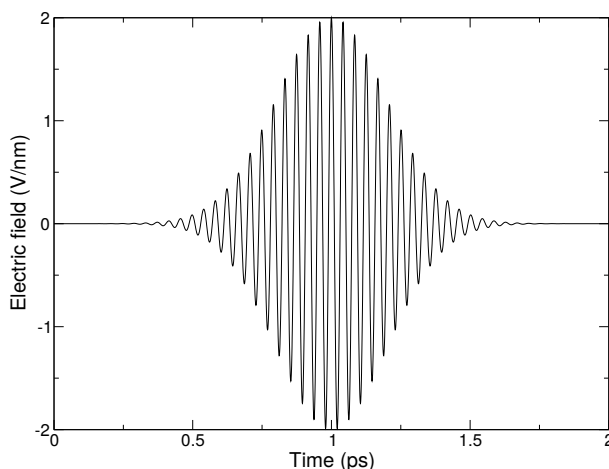

Fig. 5.48: A simulated laser pulse in GROMACS.
This simulated laser-pulse was applied to simulations of melting ice 146 (page 543). A pulsed electric field may look like Fig. 5.48. In the supporting information of that paper the impact of an applied electric field on a system under periodic boundary conditions is analyzed. It is described that the effective electric field under PBC is larger than the applied field, by a factor depending on the size of the box and the dielectric properties of molecules in the box. For a system with static dielectric properties this factor can be corrected for. But for a system where the dielectric varies over time, for example a membrane protein with a pore that opens and closes during the simulation, this way of applying an electric field is not useful. In such cases one can use the computational electrophysiology protocol described in the next section (sec. *Computational Electrophysiology* (page 485)).
yields an pulsed-oscillating electric field with  $E_0 = 2$  V/nm,  $\omega = 150$ /ps and  $t_0 = 5$  ps and  $\sigma = 1$  ps. Read more in ref. 146 (page 543). Note that the input file format is changed from the undocumented older version. A figure like Fig. 5.48 may be produced by passing the `-field` option to *gmx mdrun* (page 185).